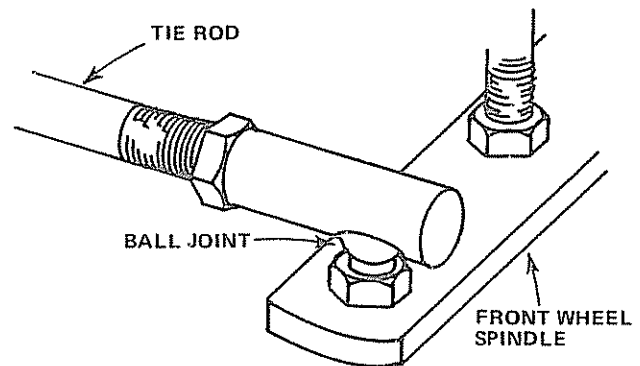

FIGURE 41
- a. Move Rubber Boots to expose Ball Joints on Tie Rods and Steering Link (Fig. 41).